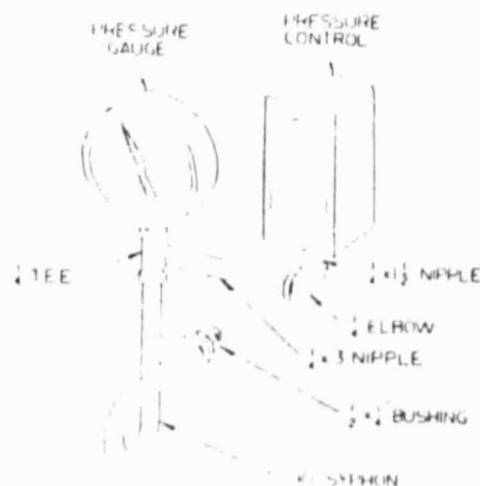

FIGURE 10
6. Install the Steam Pressure Operating and Pressure Limit Controls and the Pressure Gauge in the proper tapping as indicated in the Control Tapping Table using the Pigtail Syphon and fittings furnished as illustrated in Figure 10.